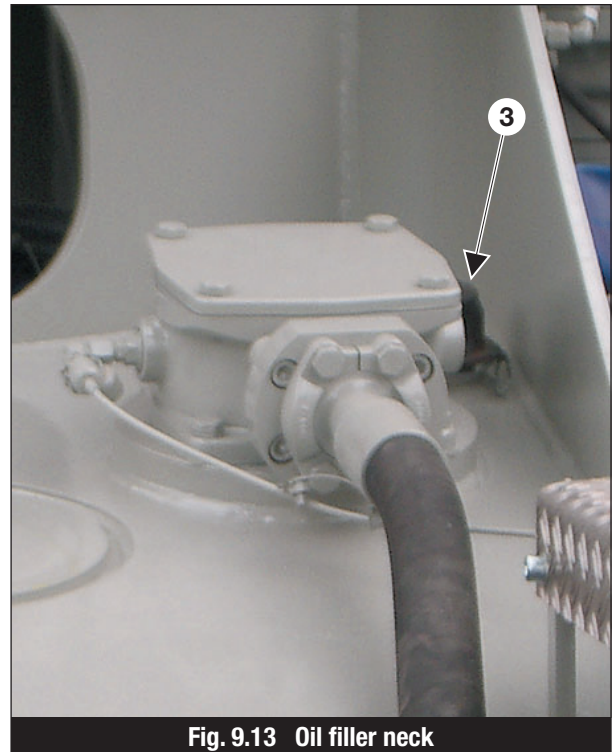

Fig. 9.13 Oil filler neck
3. Open the filler neck cap (Item 3, Fig. 9.13).
9. Close the filler neck cap (Item 3, Fig. 9.13) or the return flow filter.